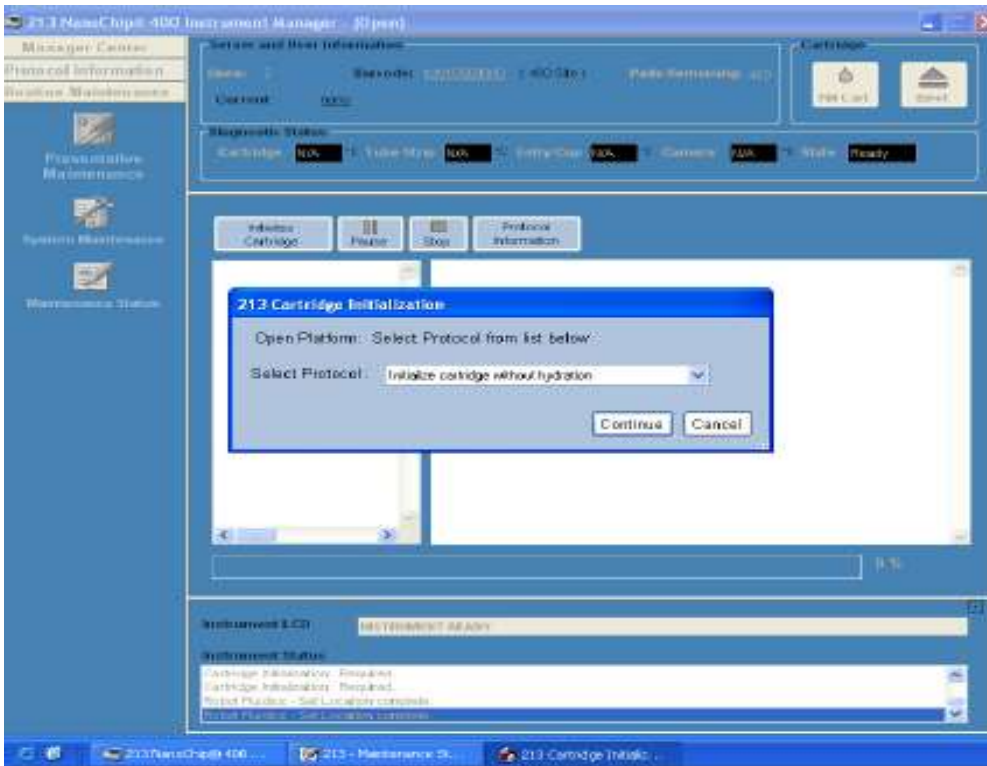

Figure 2: NC instrument Manager
9. When the Cartridge Initialization window appears, select **Initialize Cartridge with Hydration** (see figure 2).